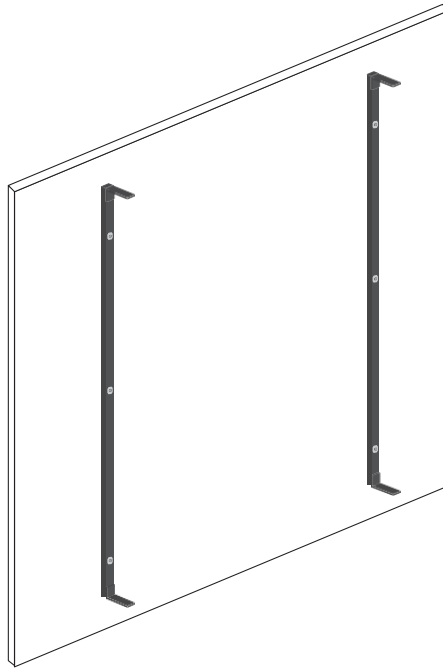

Figure 8: Attaching the Wall Boards to the Wall
7. Remove the boards from the frame and attach them to the wall using the provided hardware or other such appropriate fasteners such as lag bolts, wall anchors, molly bolts, wood carriage screws, etc. (see Figure 8).